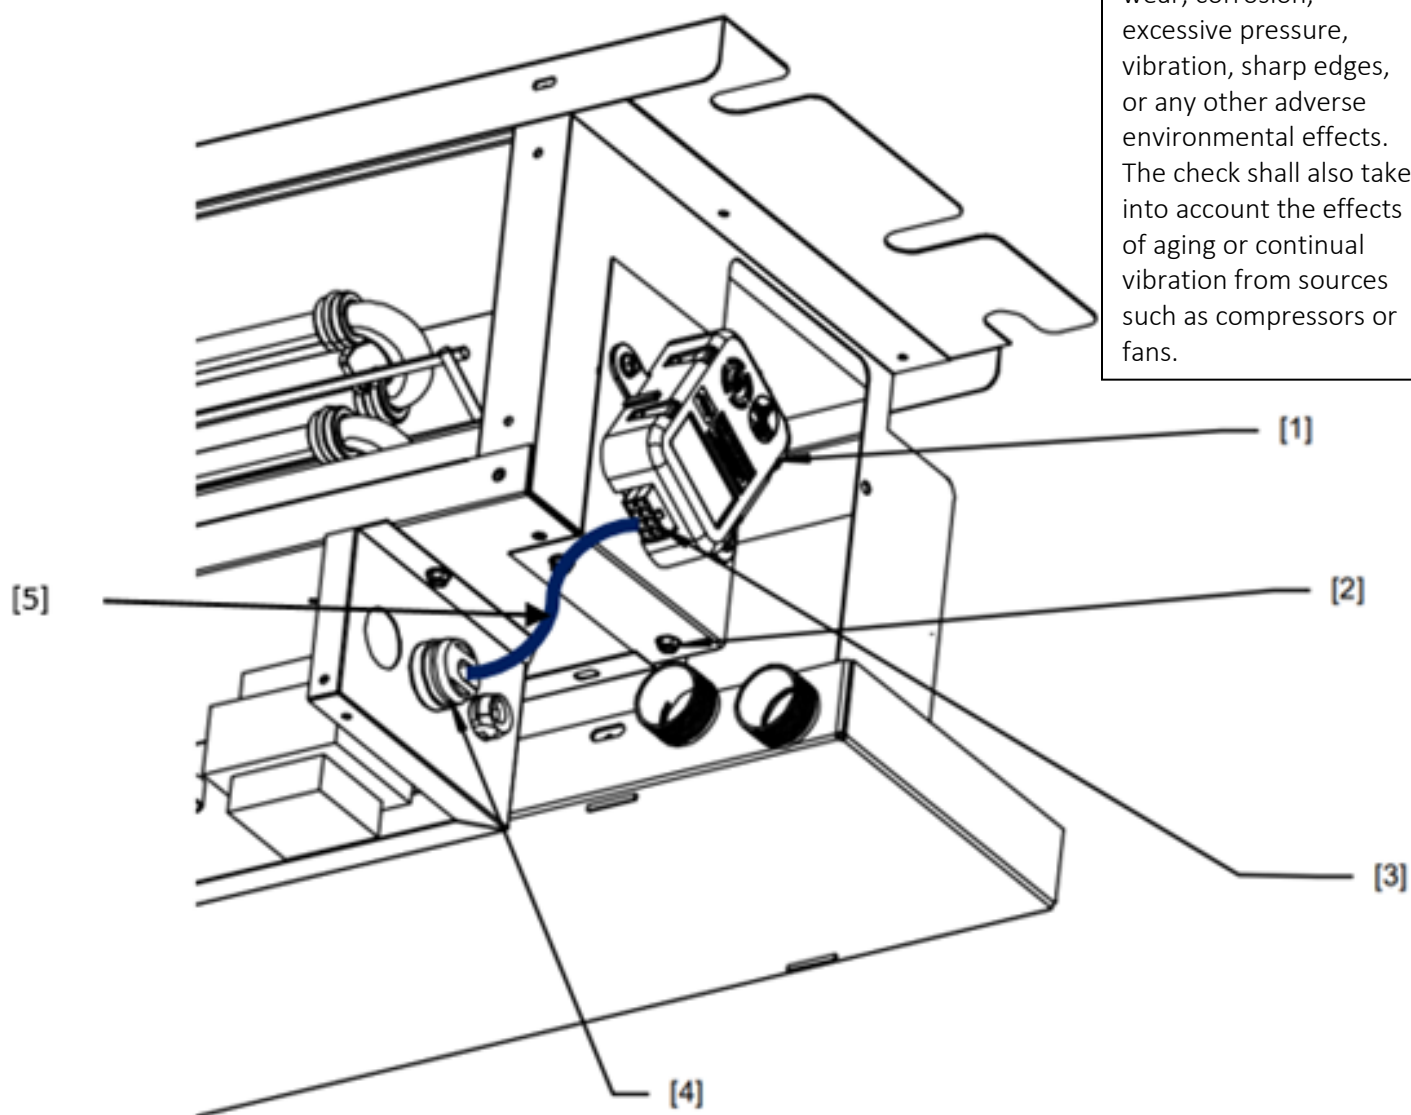

Figure 16 – Replacing Sensor to Bracket
3. Remove installed A2L sensor from bracket by removing two screws as shown in **Figure 16 - Replacing Sensor to Bracket**. (Use existing screws to install new sensor).
4. Attach new sensor to bracket using two existing screws. See **Figure 16 - Replacing Sensor to Bracket**.